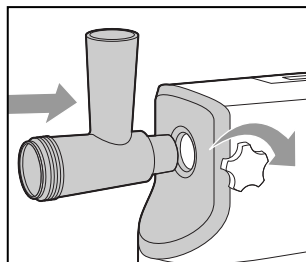

Fig. 1
1. Insert the mincer head into the groove on the base unit. Hold the mincer head with one hand keeping the food funnel vertical & insert the screw plug into the side hole of the motor unit. Align screw head with the depression on the mincer head. Turn clockwise to tightly secure head on to the base unit (as shown in Fig. 1).